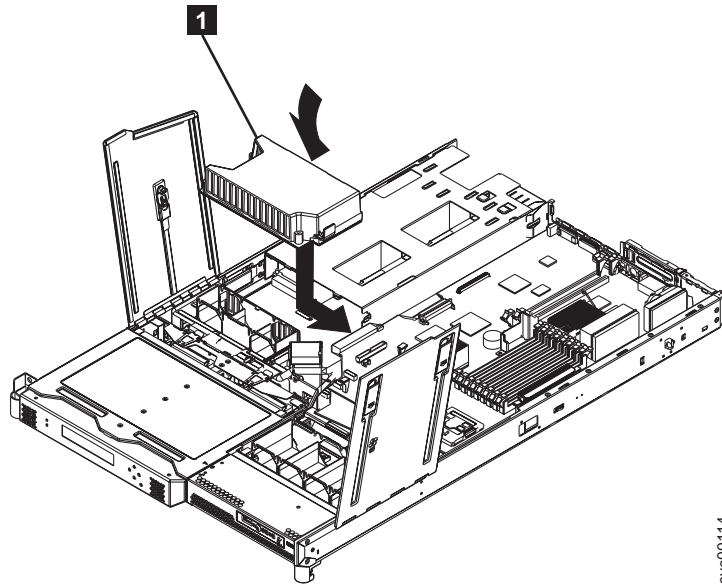

Figure 134. Replacing the power backplane
1. Lower the power backplane into position on the SAN Volume Controller 2145-8F2 or SAN Volume Controller 2145-8F4 and slide it to the right to connect it to the system board. See Figure 134 on page 151.